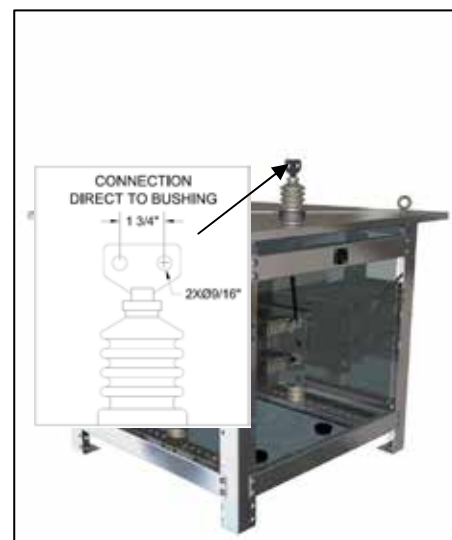

Figure 4: NEMA two-hole pad
2. The connection is made directly to a top-mounted exit bushing. The bushing has a NEMA two-hole pad type connector. The bushing will be factory wired to the transformer terminal. (See Figure 4.)